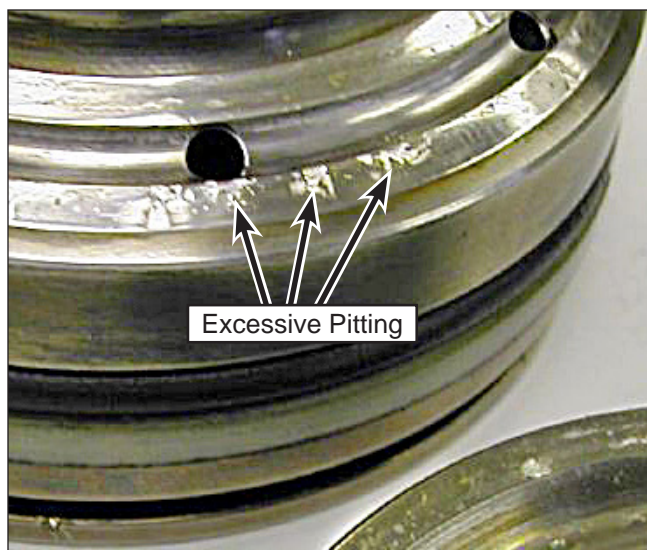

Figure 90: Valve Pitting.
2. Inspect the valve components. Discard excessively pitted or otherwise damaged components (Figure 90).